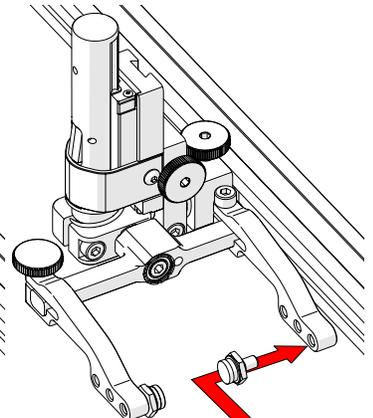

Fig. 76 - Place buttons
3. Position the pivot buttons where necessary. When a narrow scanning footprint is required, use the pivot button holes closest to the yoke (Fig. 76).